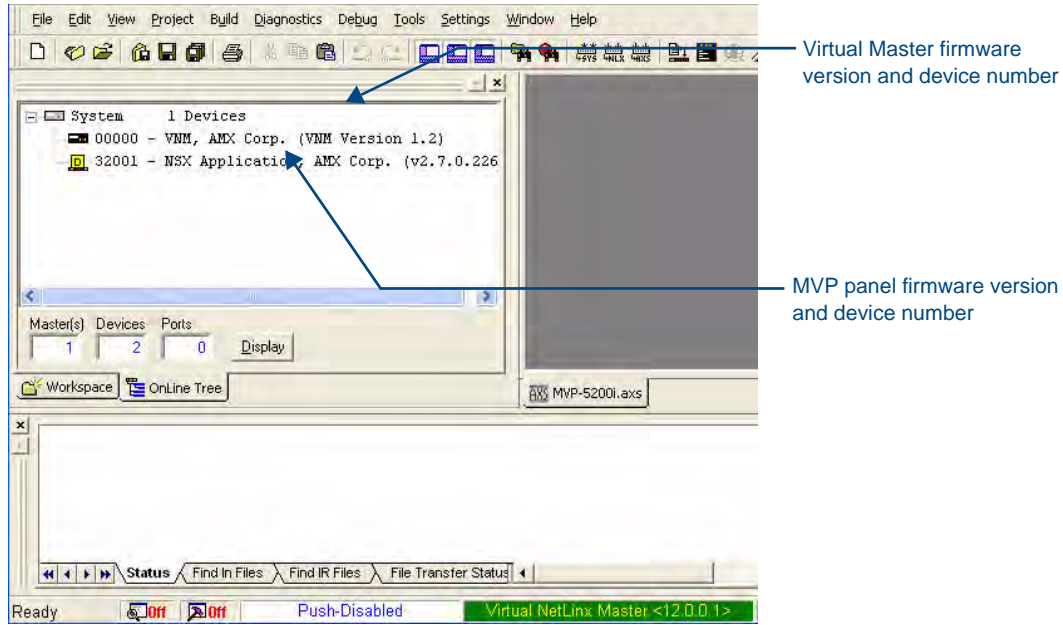

FIG. 92 NetLinX Workspace window (showing panel connection via a Virtual NetLinX Master)
- After the *Communication Verification* dialog window verifies active communication between the Virtual Master and the panel, click the **OnLine Tree** tab in the Workspace window (FIG. 92) to view the devices on the Virtual System. *The default System value is 1.*
- Right-click on the System entry (FIG. 92) and select **Refresh System** to re-populate the list. Verify the panel appears in the **OnLine Tree** tab of the Workspace window.